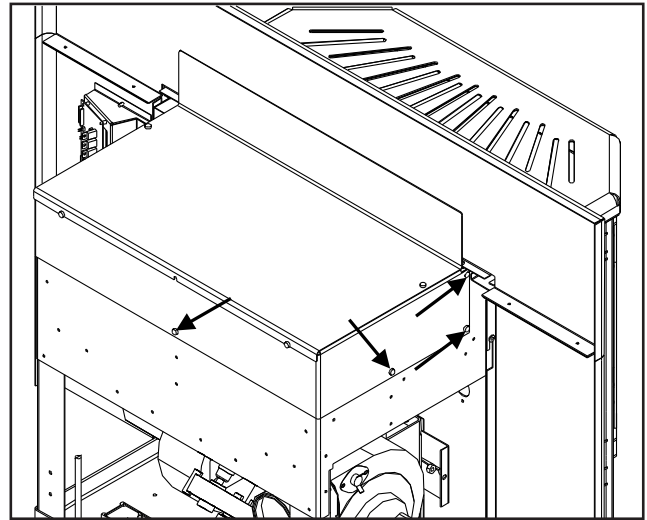

Figure 21: Hopper Extension Screw Placement.
To change the height of the hopper back up or down, remove the seven (7) T-20 screws, three (3) on each side and one (1) on the back. The screw placement is shown Figure 21. Move the hopper assembly to the required setting and replace the screws. When the hopper back is in place it is recommended that silicone is used to seal the bottom lip of the hopper back and sides